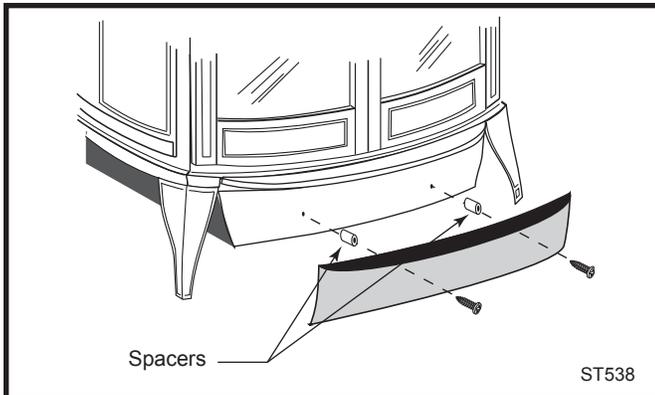

Fig. 24 Install the ashdoor heat shield.
- Insert the screws through the ash door heat shield (from the painted side), place the 5/16" spacers over the screws, and carefully thread them back into the original holes. (Fig. 24) The curved lip should be upward, under the ashlip of the stove.